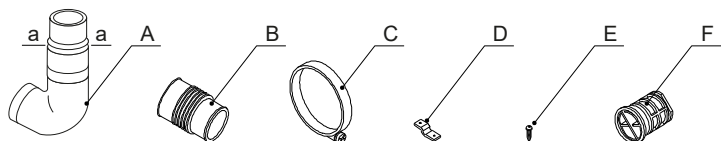

Fig. 2
- Pump accessories: A–F (see Fig. 2 – Accessories)
If you do not use the side inlet, use the spare part F (plug – see Fig. 2), insert it in the marked direction into the side inlet, and turn it 90° to block it.
If you use Ø40 mm, according to Fig. 2, remove the Ø32 mm part (section a-a).